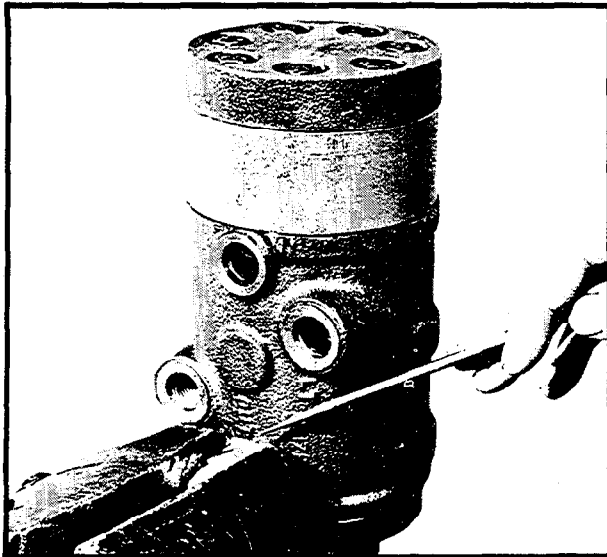

Figure HGA-7
1. Remove Dirt Seal (2) and discard.
2. To prevent possible distortion or damage to unit if placed directly in vise, the following procedure should be used. Insert "o" ring tube fitting, with tube nut or fitting cap attached, into one of the four threaded ports in the housing. Clamp the fitting in a vise in a manner which will locate the seven end cover bolts in an upright position. (See figure HGA-7).